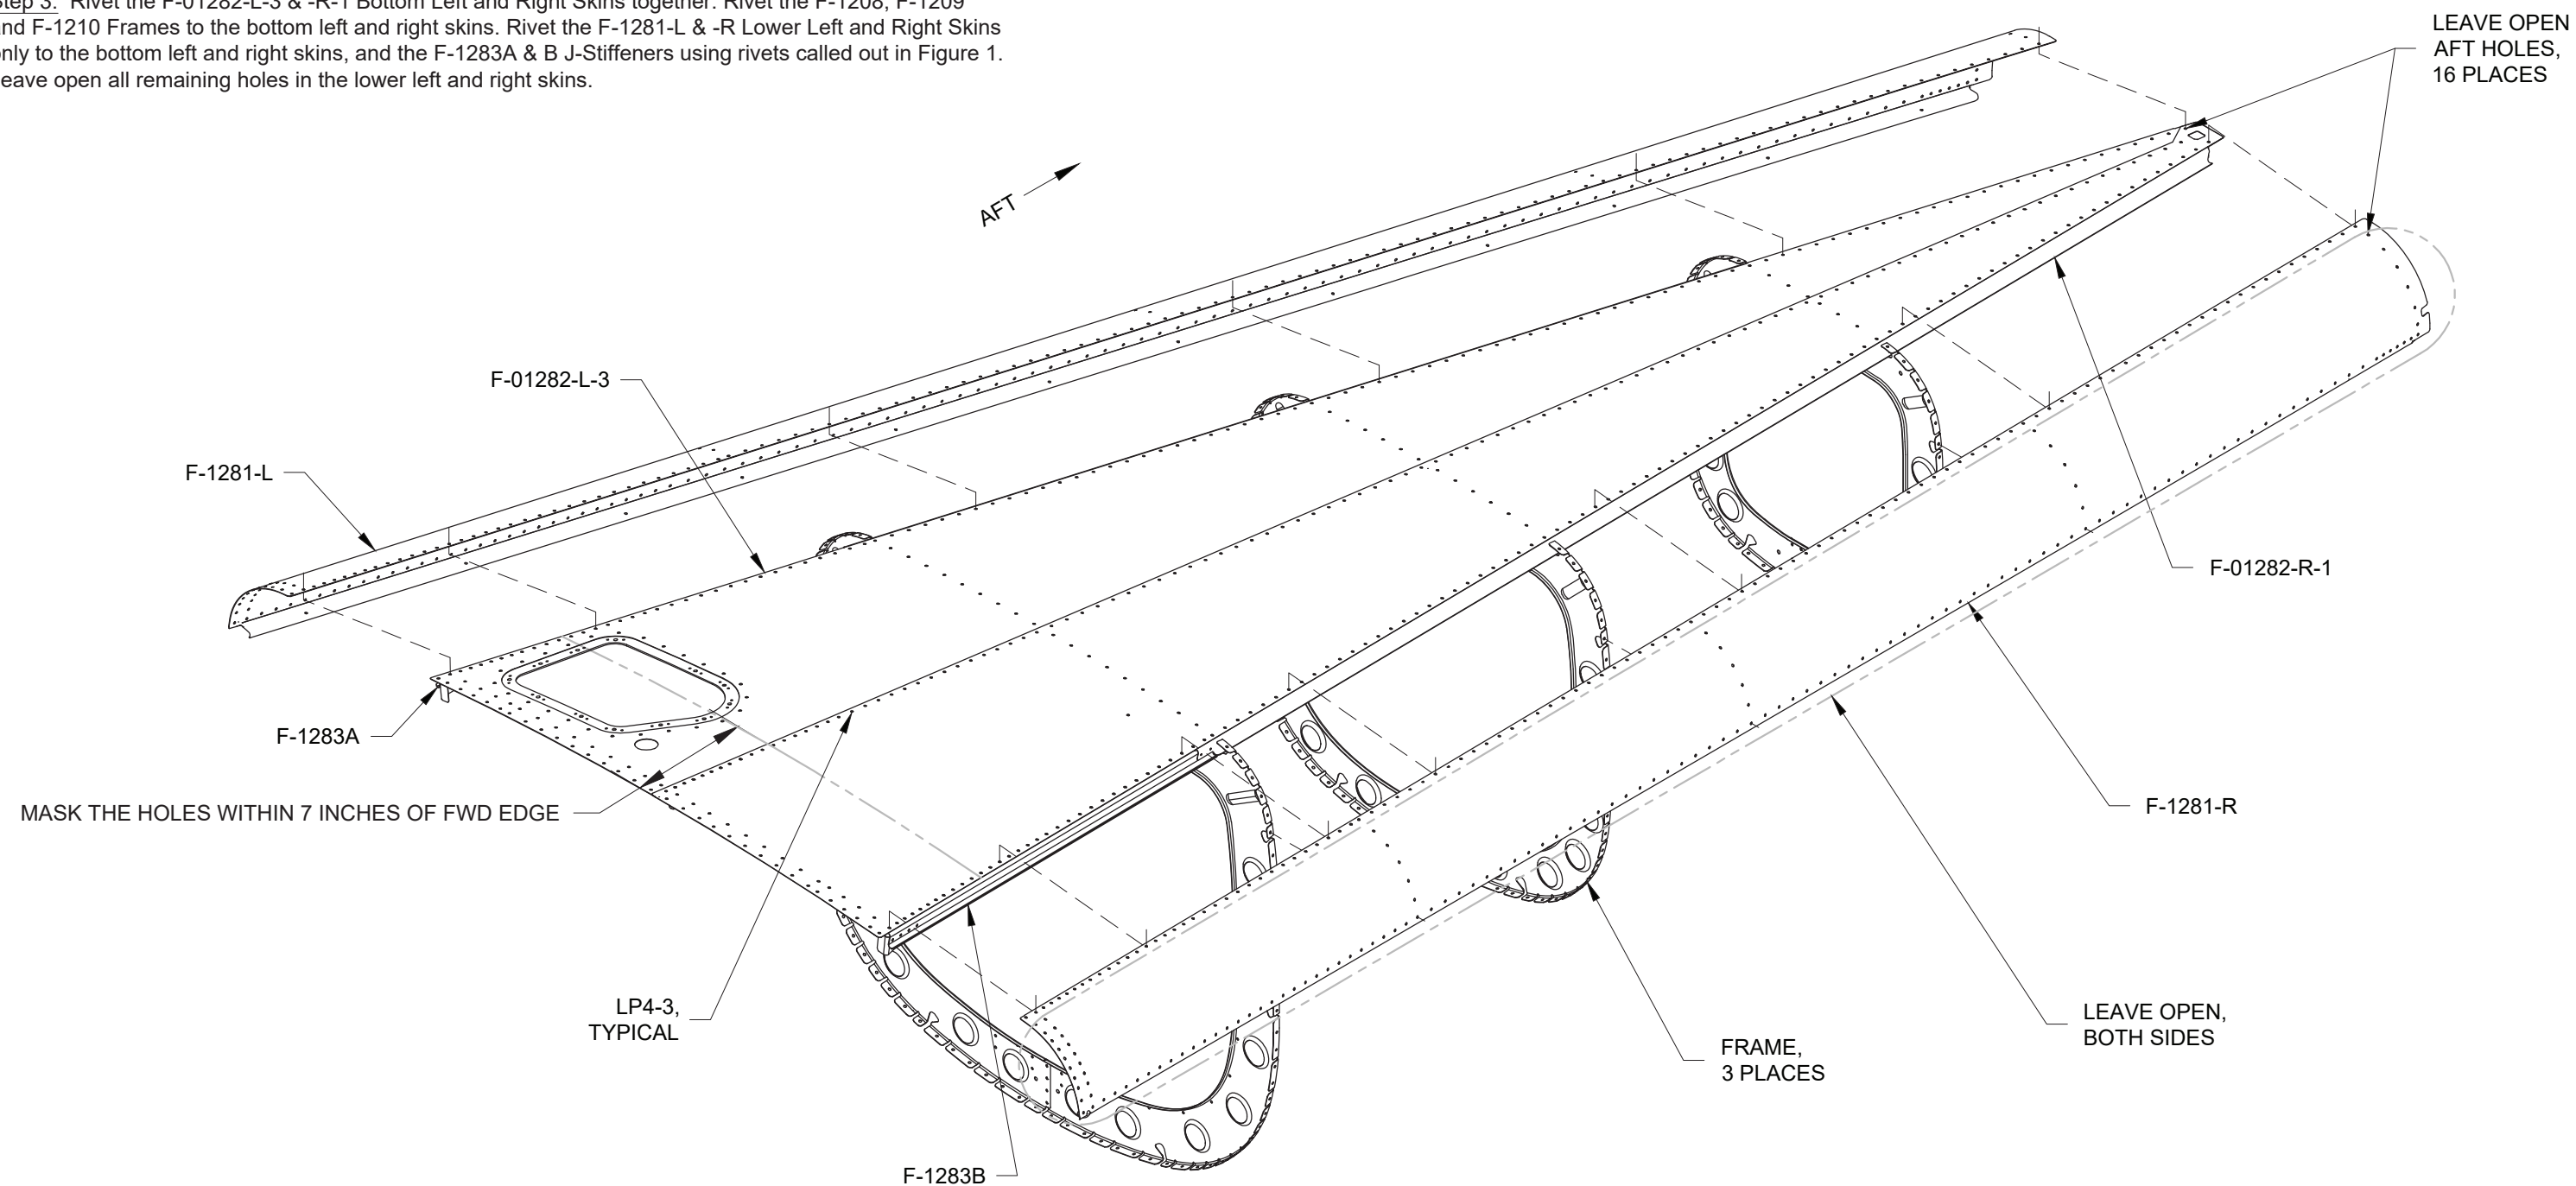

FIGURE 1:
Step 3: Rivet the F-01282-L-3 & -R-1 Bottom Left and Right Skins together. Rivet the F-1208, F-1209 and F-1210 Frames to the bottom left and right skins. Rivet the F-1281-L & -R Lower Left and Right Skins only to the bottom left and right skins, and the F-1283A & B J-Stiffeners using rivets called out in Figure 1. Leave open all remaining holes in the lower left and right skins.